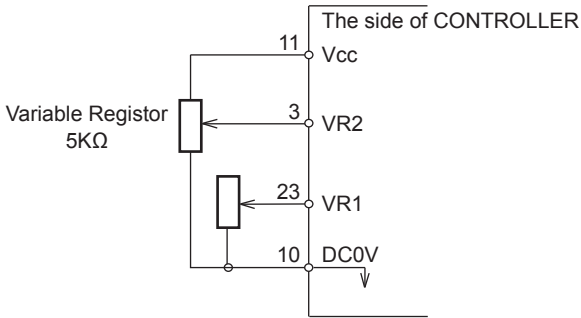

Fig. 25
④ Motor Speed Control Signal
Rotation Speed can be selected by, applying analog voltage to VR1 and VR2. Refer to Fig. 25, 26 for connections. Refer to Fig. 27, 28 for the relationship between Motor Speed and " Motor Speed Control Voltage (VR) ".